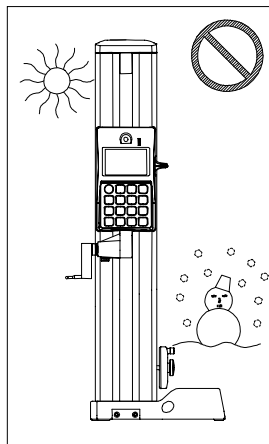

Fig.2
- Do not use this gage in locations where it will be exposed to direct sunlight or a draft of hot air (Fig.2).